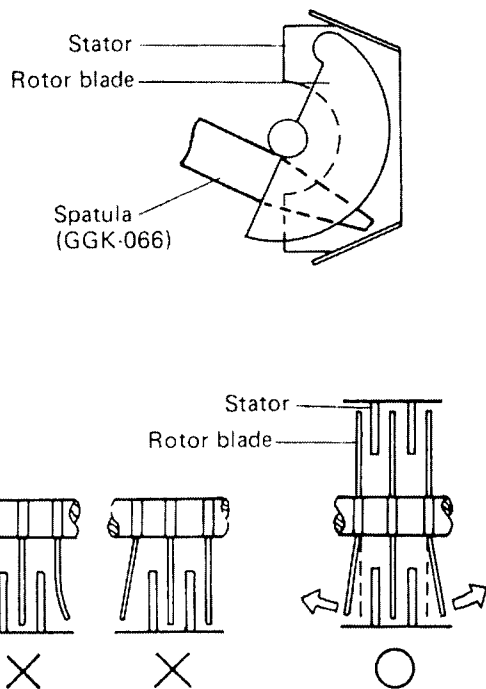

Fig. 8-1 Adjustment of tuning capacitor
- The tuning coil in the RF amplifier circuit does not have an adjusting core. Consequently, tracking adjustment at 90MHz are performed by regulating the gap between rotor and stator of the tuning capacitor (VC3). The expression "adjust VC" found in the text means that the two outer rotor blades of each of these tuning capacitors are to be extended outwards with spatula (Part No.GGK-066) as shown in Fig. 8-1.